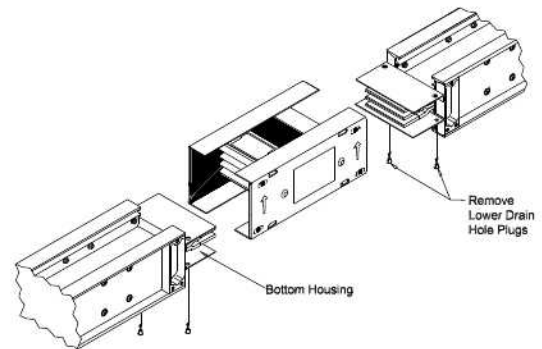

Figure 16. Drain Holes in Horizontal Joint
9.2.2.2 Horizontal Joints - Remove the lower two (2) drain hole plugs from the end ramps of each busway section. Four (4) per joint only. No other drain holes should be removed. See Figure 16.